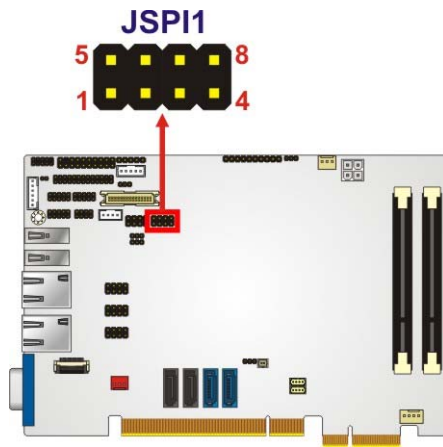

Figure 3-22: SPI Flash Connector Location
- CN Location:** See **Figure 3-22**
3.2.22 SPI Flash Connector (EC)